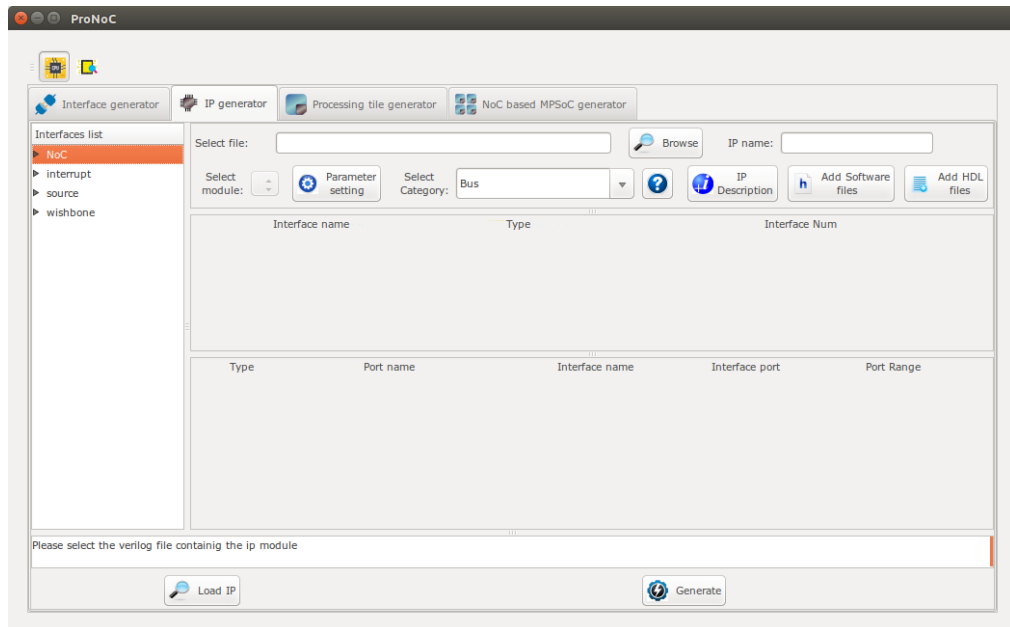

Figure 6.2: ProNoC New IP Generator snapshot.
2. Then select the  IP generator. The IP Generator snapshot is shown in Figure 6.2.